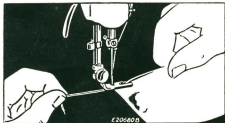

Fig. 39. Starting Hem at Very End of Material
3. Raise hemmer. Pull threads and hem slightly from you with left hand, then while holding threads, draw material toward you, with right hand, into scroll of hemmer until tacked end is caught in hemmer, as shown in Fig. 39.